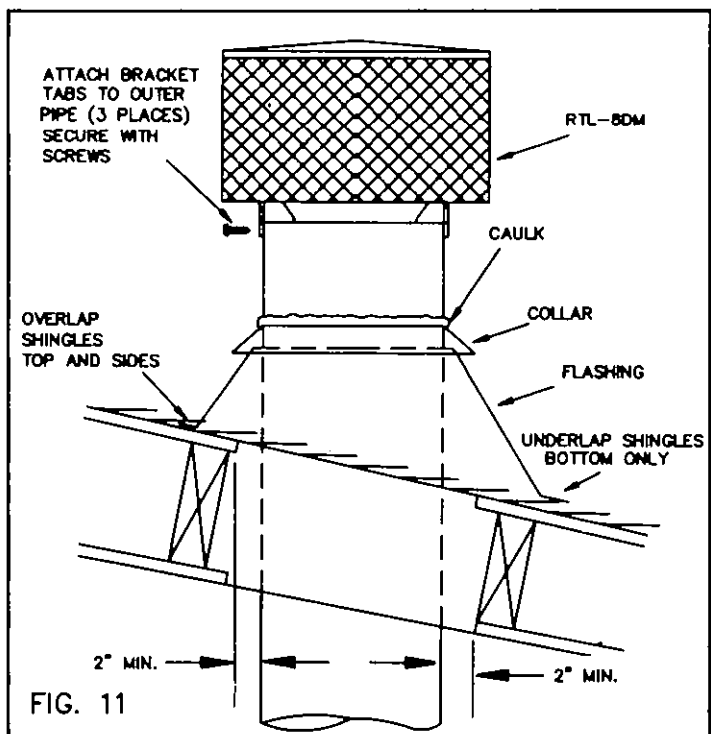

FIG. 11
STEP 2: Install storm collar on double wall chimney, apply waterproof caulking around flashing top and push storm collar down securely on sealer and flashing, (SEE FIG.11).
STEP 3: Place the RTL-8DM TERMINATION onto the pipe end as illustrated in FIG.11 and secure with screws provided.